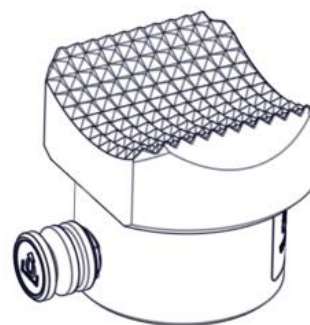

Figure 1-7. Contour Base
d. **Contour Base.** The Contour Base (Figure 1-7) is shaped to have curved, slip resistant surface that could be placed on desirable point at variable angle